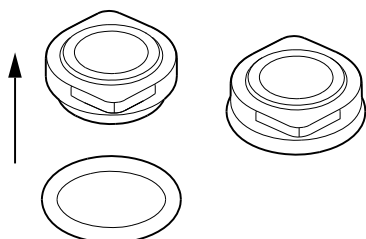

Fig. 22 Fitting the O-ring on the stationary shaft seal part
1. Fit cover plate (pos. 32) and O-ring (pos. 31). Lubricate the O-ring. See section 3. *Tightening torques and lubricants*.
2. Fit O-ring (pos. 102) on the stationary shaft seal part. See fig. 22. For correct lubricant, see section 3. *Tightening torques and lubricants*.